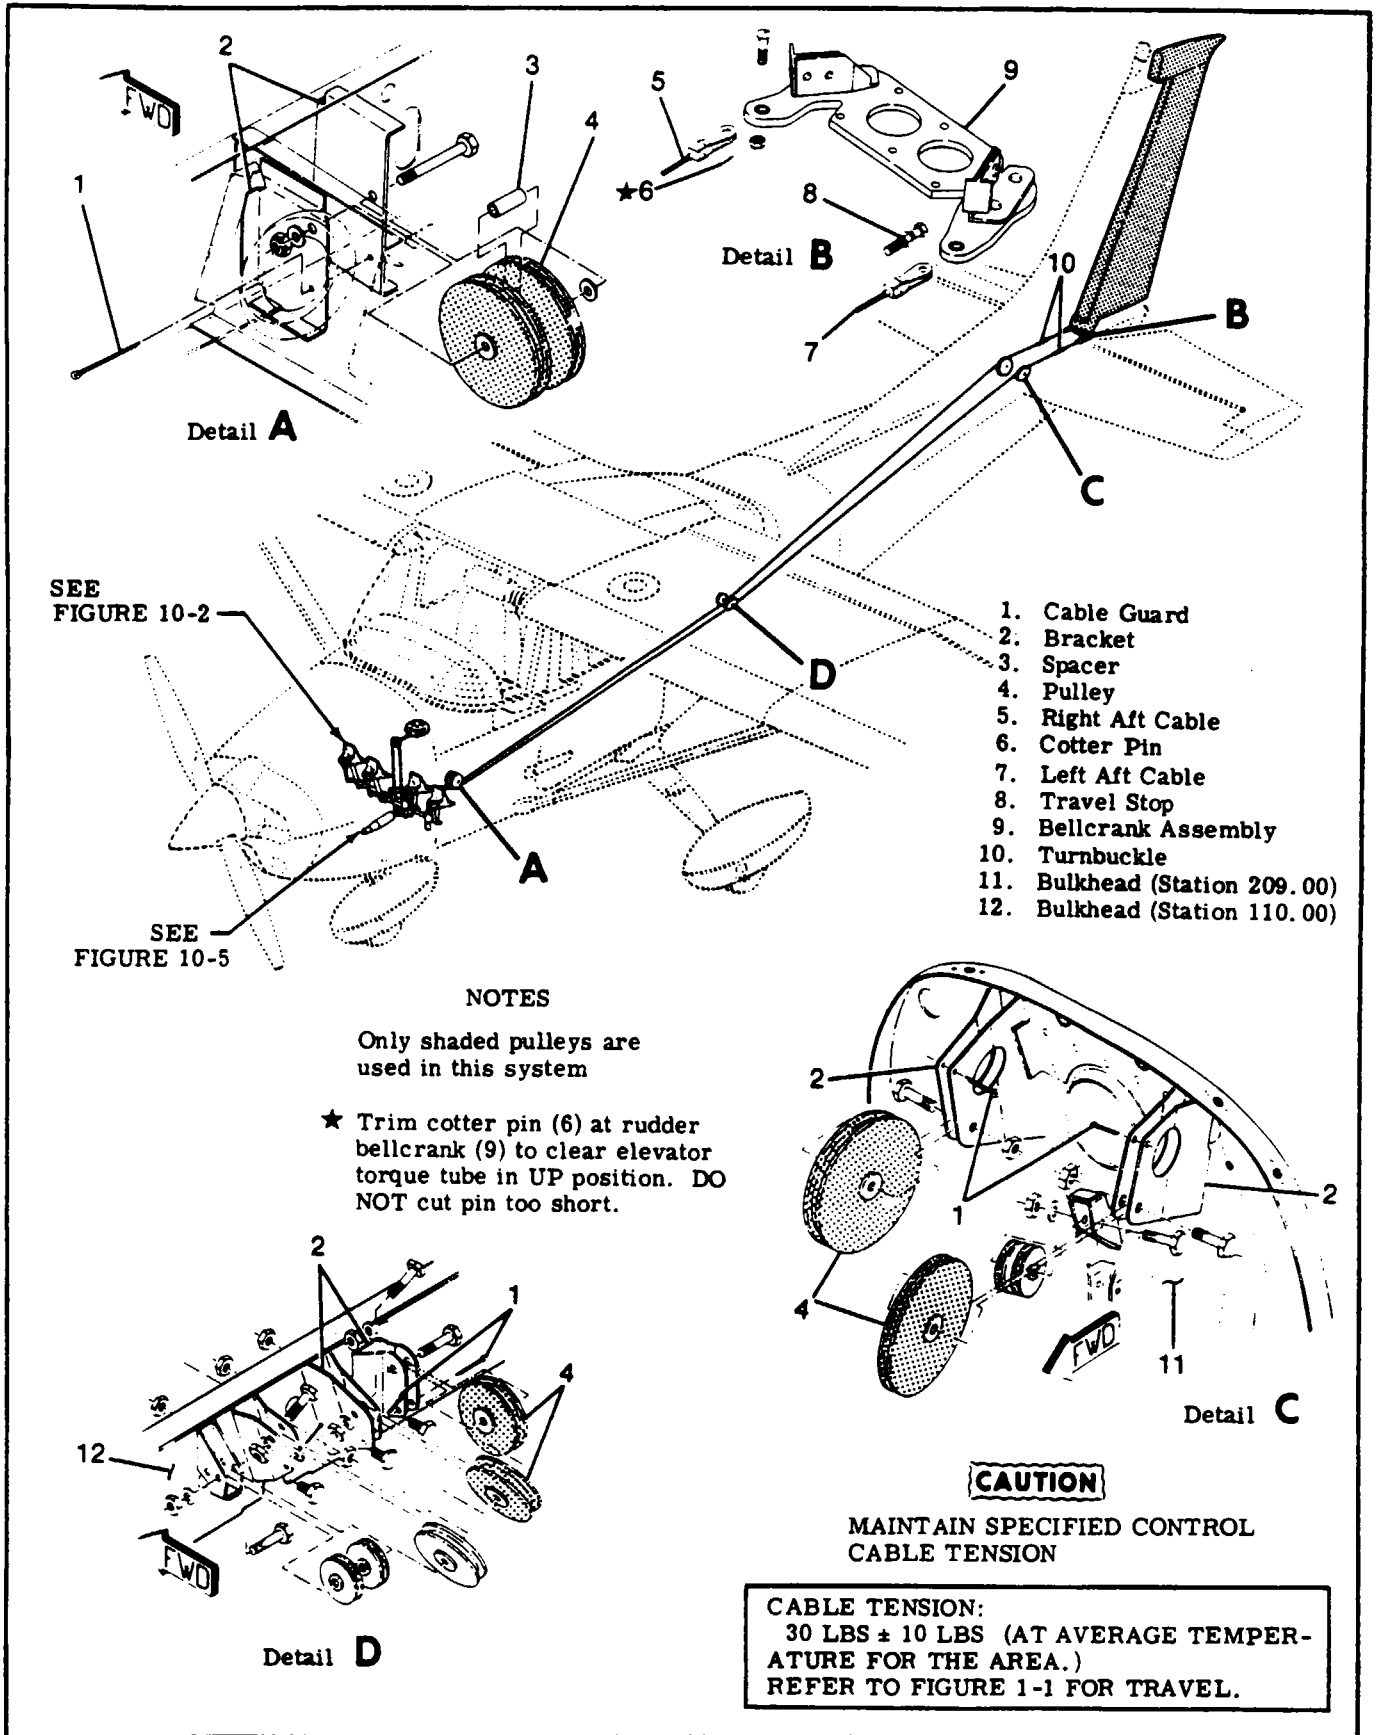
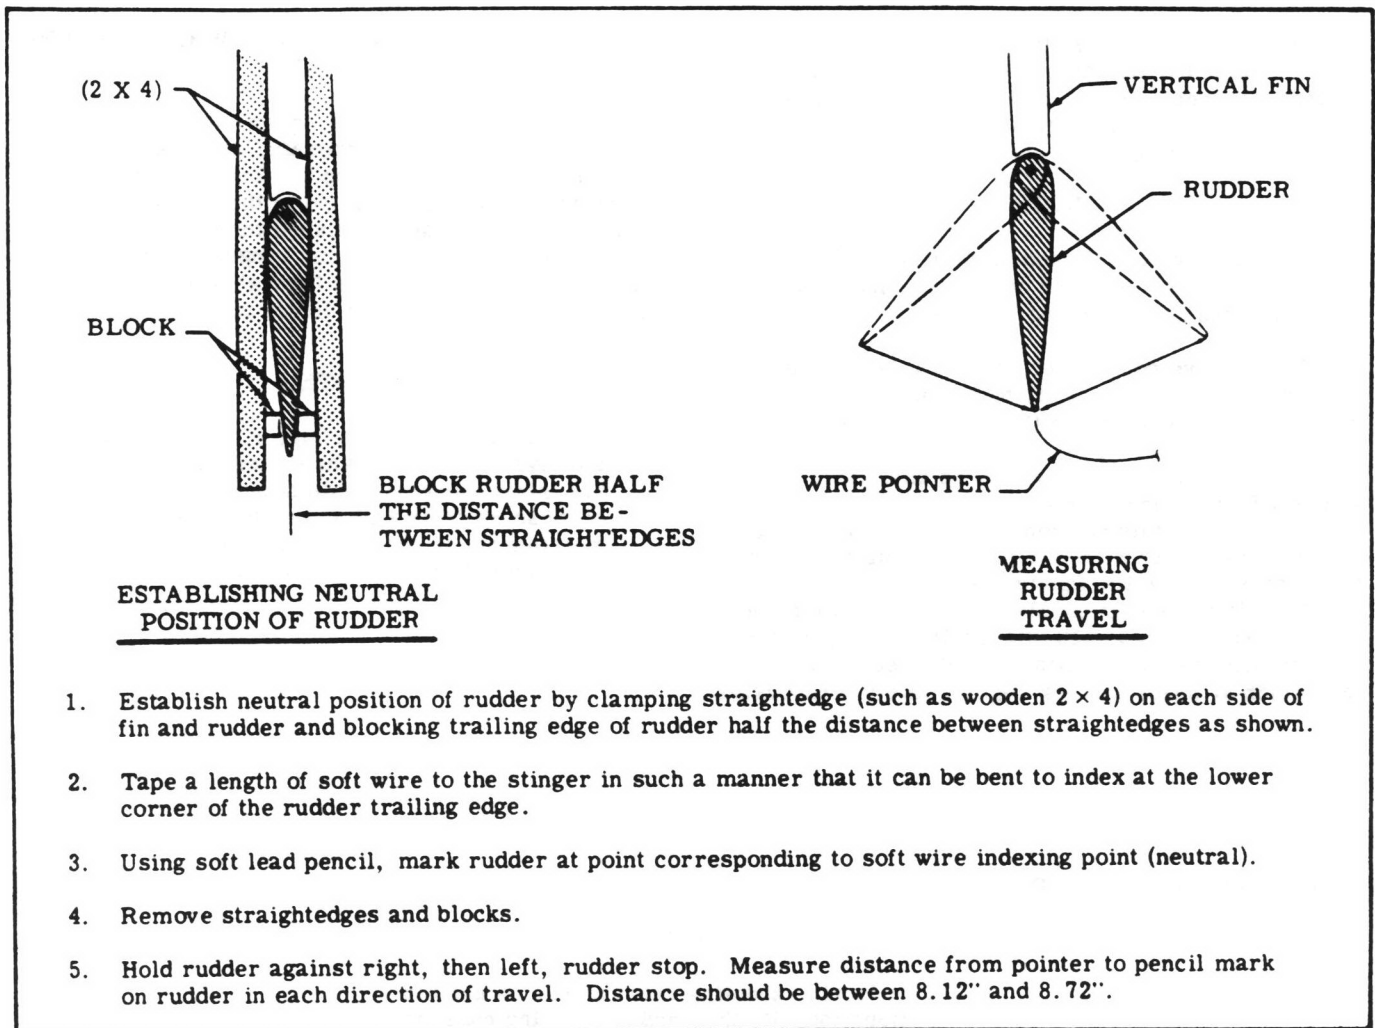

Figure 10-1. Rudder Control System
Figure 10-4. Checking Rudder Travel
10-1. **RUDDER CONTROL SYSTEM.** (See figure 10-1.)
- b. Disconnect brake master cylinders (15) and parking brake cables at pilot's rudder pedals.
- c. Remove rudder pedals (2) and brake links (5).
- d. Remove fairing from either side of vertical fin, remove safety wire and relieve cable tension by loosening turnbuckles (index 10, figure 10-1).
- e. Disconnect cables (6 and 7) from rudder bar arms (8).
- c. Remove fairing from either side of vertical fin, remove safety wire and relieve cable tension by loosening turnbuckles (index 10, figure 10-1.)
d. Disconnect cables (index 5 and 7, figure 10-1) from rudder bellcrank.
10-9. CABLES AND PULLEYS. (See figure 10-1.)
1. Adjust travel stop bolts (index 8, figure 10-1) to attain correct rudder travel as specified in figure 1-1. Figure 10-4 illustrates correct travel and one method of checking.
2. Loosen adjustable idler sprocket (25) and disengage chain from sprockets (9 and 19).
3. Disconnect steering bungee adjustable rod end (26) from wiffletree (14).
4. Remove fairing from either side of vertical fin, remove safety wire and relieve cable tension at turnbuckles (index 10, figure 10-1).
5. Clamp rudder pedals in neutral position and center wiffletree (14) by adjusting push-pull rods (12). Wiffletree is centered when the bolts in each end are the same distance from the bulkhead just forward of the wiffletree. Tighten jam nuts.
6. Maintaining rudder pedals in neutral position, adjust turnbuckles (index 10, figure 10-1) to specified tension with the rudder offset one degree to the right, (5/16 inch at lower trailing edge). Safety turnbuckles.
2. Remove bolt in slotted hole of bearing mount (2) and disconnect spring (5) to release tension on chain (3). disengage chain (3) from sprocket (4 and 16).
3. Disconnect steering bungee adjustable rod end (21) from rudder bar arm (17).
5. Clamp rudder pedals in neutral position, adjust turnbuckles (index 10, figure 10-1) to specified tension with the rudder offset one degree to the right, (5/16 inch at lower trailing edge). Safety turnbuckles.